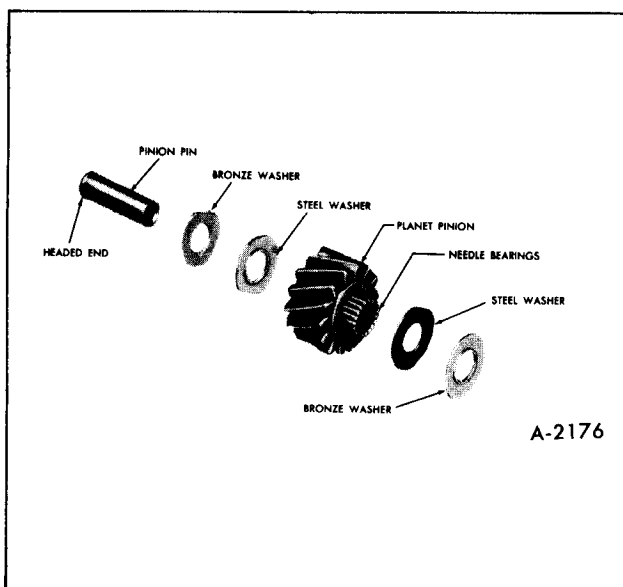

Figure 59—Planet Pinion Components
7. Place a bronze and steel thrust washer on each side of pinion gear with steel washers against gear, Figure 59. Hold washers in place with petrolatum.